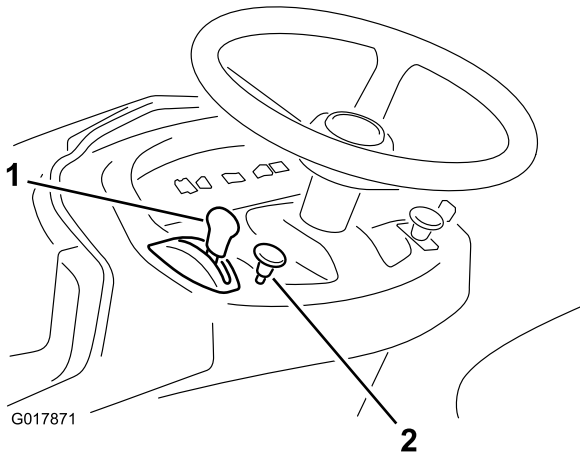

Figure 9
5. When starting a cold engine, pull out the choke knob (Figure 9).
6. Turn the ignition key clockwise and hold it in the Start position (Figure 9).
7. After the engine starts, slowly shift the throttle control lever to the Fast position (Figure 9).
1. Move the throttle control lever to the Slow position (Figure 9).
2. Turn the ignition key to the Off position (Figure 9).